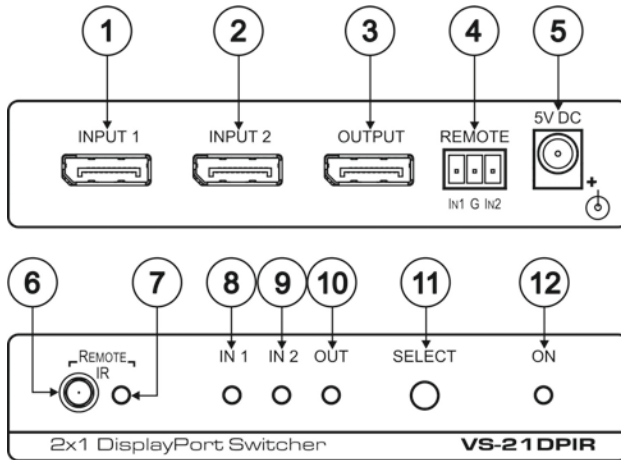

Figure 1: VS-21DPIR 2x1 DisplayPort Switcher
1. Point the remote control transmitter at the remote receiver (item 6 in Figure 1) and press the GROUP key.
2. Press key 11.